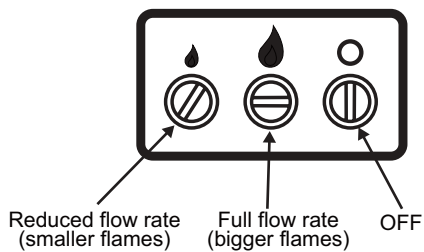

Fig.3
2. Apply gas leak detecting liquid to the cylinder /regulator / hose / appliance joints. The control knob should remain closed: off position (O). (Fig. 3)
4. Any gas leaks will be indicated by bubbles. (Fig. 3)